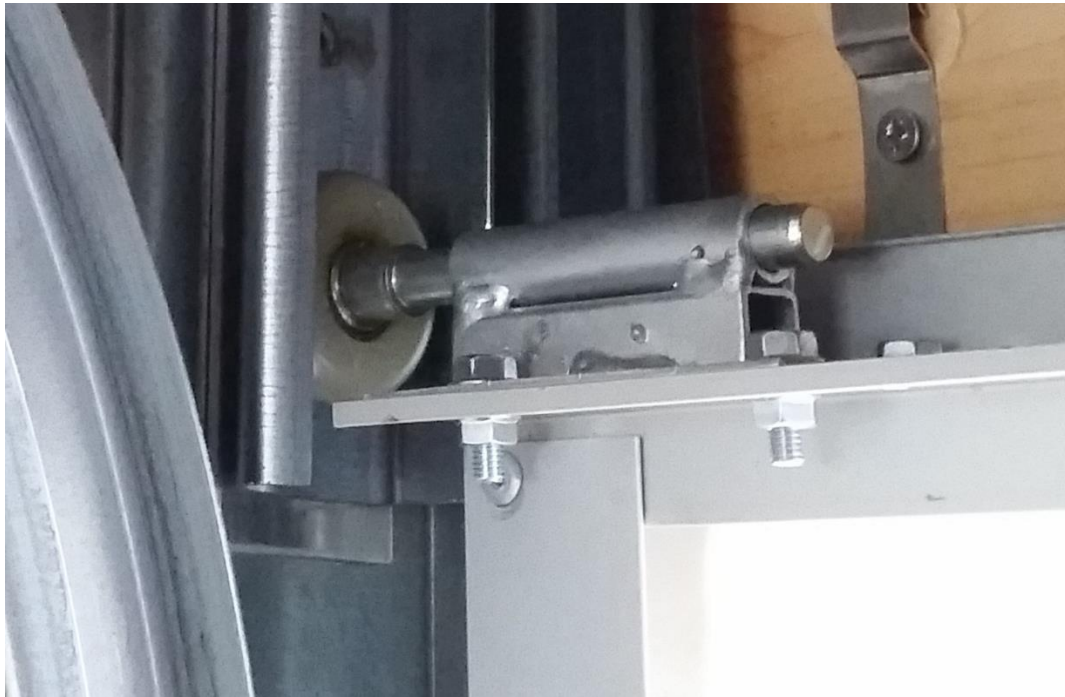

Figure 8 Top Roller Carrier and Bracket (Manual Style)
31. INSTALLATION NOTE – Positioning of the top wheels is dependent on the model of door – If manual the wheel is located into the drop portion of the cast fitting. If electrical the wheel must be located onto the horizontal portion of the fitting (see Figure 8 and Figure 8a for comparison). Brackets will be provided to suit.